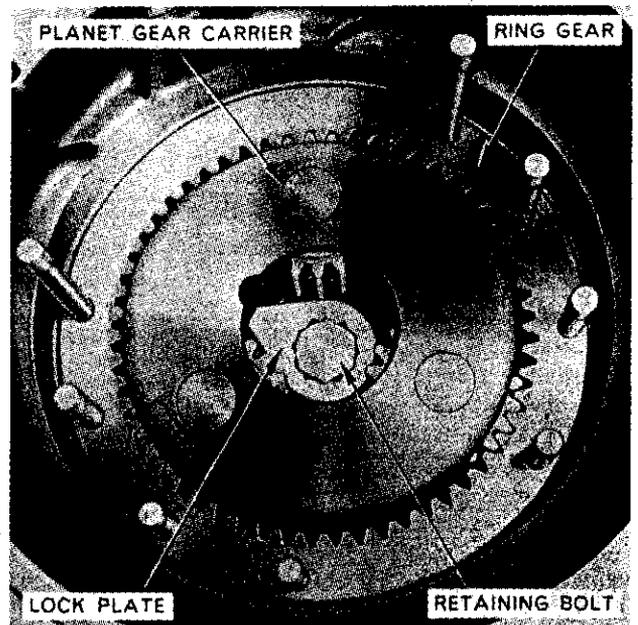
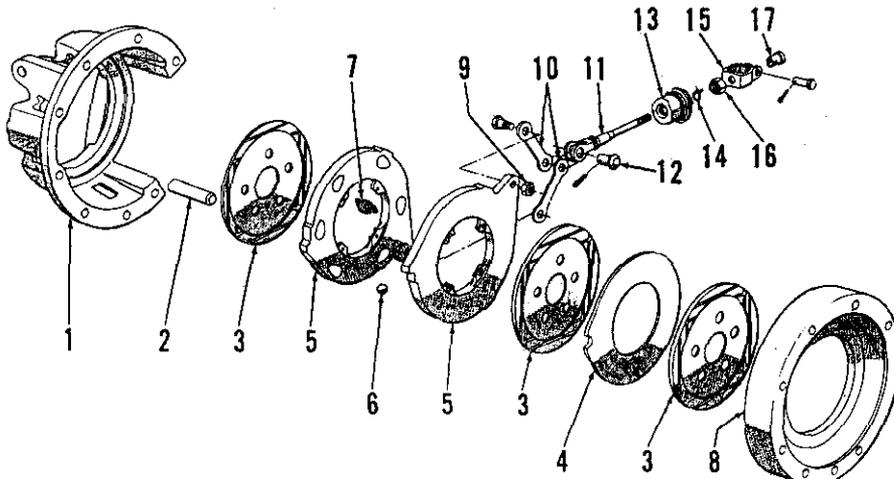

Fig. 341—View of planetary carrier installed in model 4000 rear axle housing.
Fig. 347—Exploded view of model 4000 brake assembly. Brake inner housing (1) is same as (21—Fig. 330) and outer housing (8) is same as (19—Fig. 330).
and fork from housing. Remove the stud nuts retaining brake inner housing (21—Fig. 330) and remove the inner housing, brake assembly (20) and brake outer housing (19). Note: Refer to Fig. 347 for exploded view of model 4000 brake assembly. Lift out the final drive sun gear (18—Fig. 330) and the locking plate (16). On model 4000, it may be necessary to turn axle housing to align planetary (see Fig. 341) so that lock plate can be removed. Remove the cap screw (15—Fig. 330) retaining final drive planetary (12) to axle shaft and remove the retainer (14), spacer shim (13) and planetary assembly. Drive axle shaft seal (2) from outer end of axle housing and lift housing from
Refer to Fig. 347 and proceed as follows: Unbolt and remove inner disc brake housing assembly from inner end of axle housing. Remove brake control rod fastener and, if damaged, remove brake rod seal. To remove seal, place a sharp tool between seal flange and housing and pry seal out. Remove the brake disc assemblies, intermediate discs, the actuating disc assembly and the outer brake housing.
Fig. 347 for reassembly of brakes. After inner brake housing is installed, tighten the retaining nuts to a torque of 72-90 Ft.-Lbs.